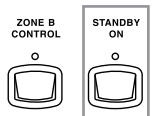

Figure 2
1. The MX160 has a Rear Panel Main Power rocker type switch. This switch removes all AC Power from the MX160 circuitry. It is useful to remove AC Power when the unit will not be used for an extended period of time, during lightning storms or AC Power outages. Referring to figure 1, the rocker switch is placed in the OFF  position when shipped from the factory. Place the Main Power rocker switch to the ON  position. The Front LED located above the STANDBY ON Push-button should now be illuminated. Refer to figure 2.